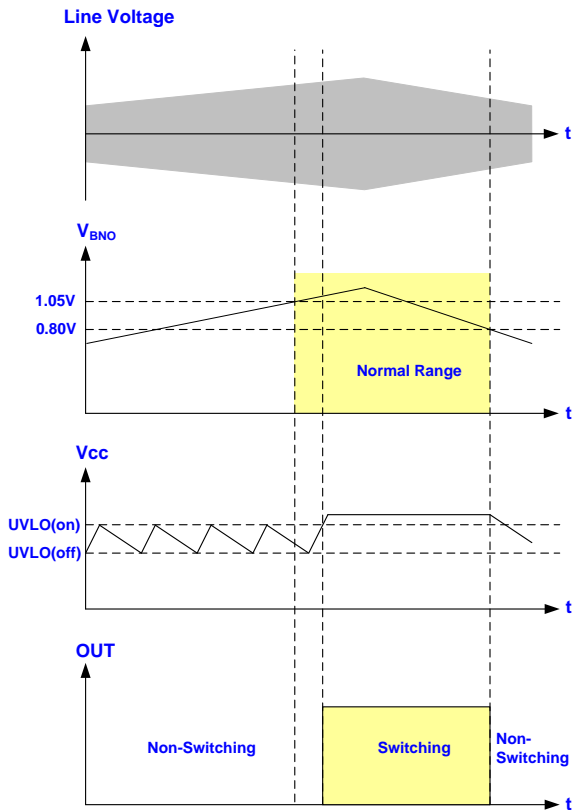

Fig. 19
The LD7932M is programmable to set the brownout protection point through BNO pin. The voltage across the BNO pin is proportional to the bulk capacitor voltage, referred as the line voltage. A brownout comparator is implemented to detect the abnormal line condition. As soon as the condition is detected, it will shut down the controller to prevent the damage. Fig. 19 shows the operation. When VBNO falls below 0.80V, the gate output will be kept off even Vcc has already achieved UVLO(ON). It therefore makes Vcc hiccup between UVLO(ON) and UVLO(OFF). Unless the line voltage is large enough to pull VBNO larger than 1.05V, the gate output will not start switching even when the next UVLO(ON) is tripped. A hysteresis is implemented to prevent the false trigger during turn-on and turn-off. Fig. 20 shows the circuit.